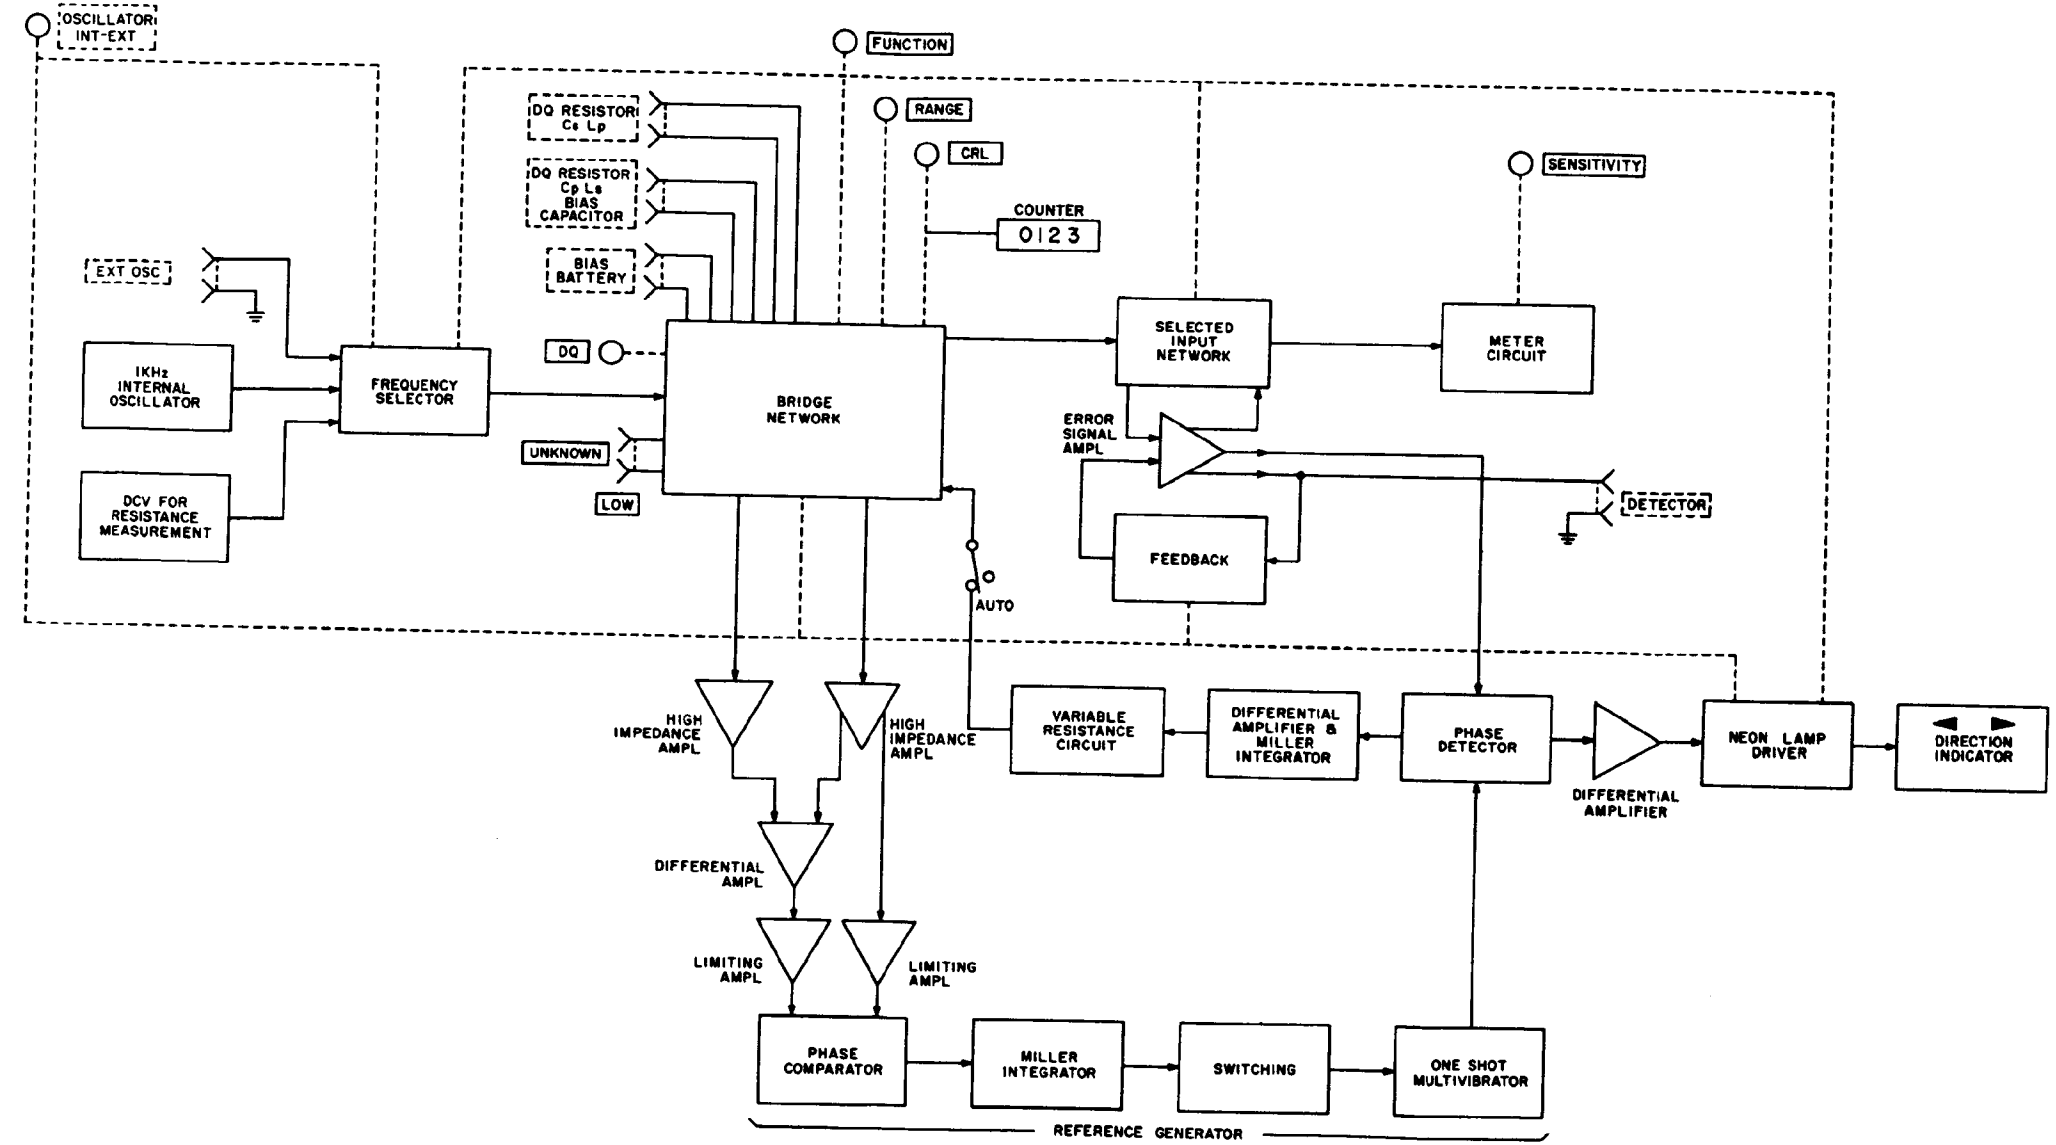

Figure 7-2. Overall Block Diagram.
- b.* Block diagram (fig. 7-2).